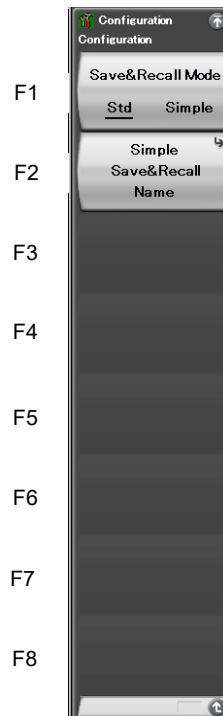

Figure 3.6.4-1 Save&Recall Settings function menu
3. Press  (Save&Recall Settings) to display the Save&Recall Settings function menu in Figure 3.6.4-1.